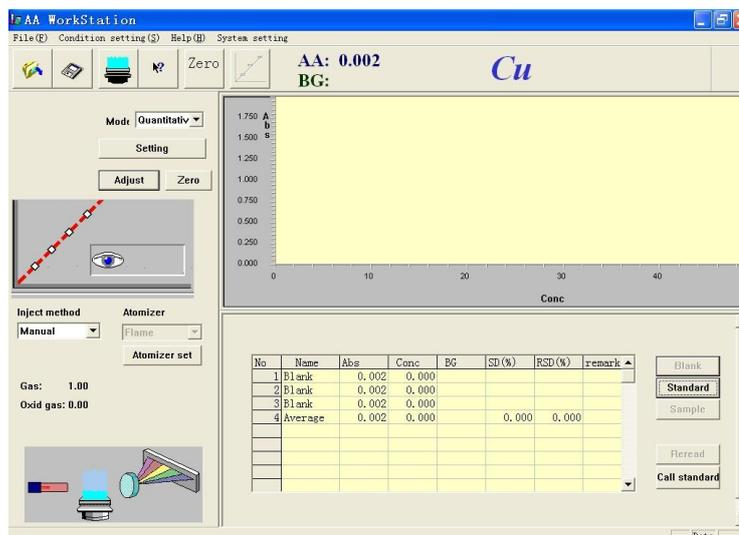

Figure 5-5
9. Press "Zero" to zero the instrument. After zeroing, suck and spray the sample. After the real-time displayed values become stable, press the "Test sample" button and the screen is as shown in Figure 5-5 (Because the "Average times" in the "Correction curve and slope factor readjustment parameters" screen is set to be 3, the values will be read for three times).